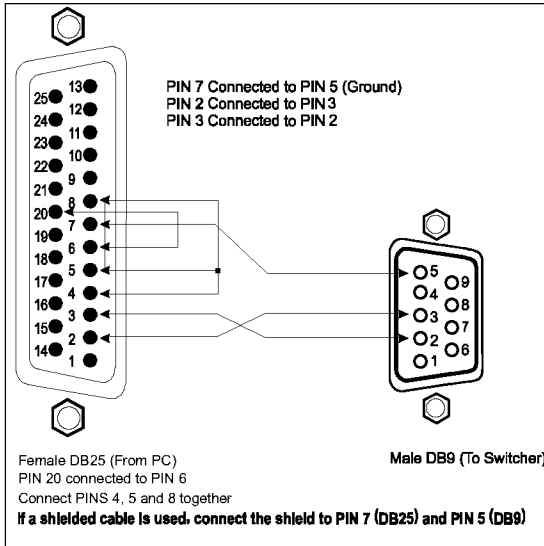

Figure 7: Connecting a PC (with a 25-pin connector) without a Null-modem Adapter
1. Connect the PC's DB25 COM port to the RS-232 IN DB9 port on the **VS-1616SDI** unit, as Figure 7 illustrates: